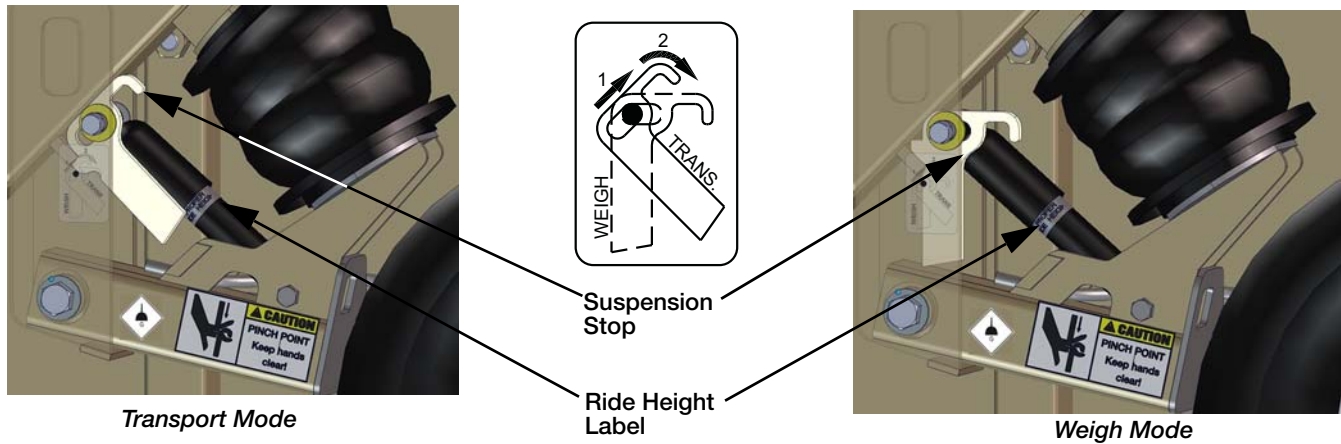

Figure 3-2. Suspension Stop and Ride Height
7. Flip the suspension stops (on each axle of the scale) into the weigh mode (see Figure 3-2). Scale will not fully lower to ground with stops in transport position.